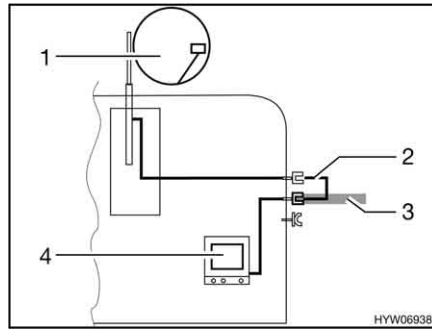

Fig. 171 TV inside the vehicle
- TV inside the vehicle (Fig. 171,4): Connection to roof antenna (Fig. 171,1) with connection cable (Fig. 171,2)
- TV inside the vehicle (Fig. 171,4): Connection to external antenna (Fig. 171,3)